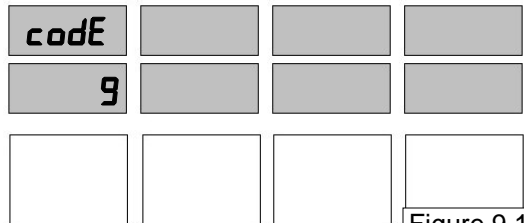

Figure 9.1
1. After the Manager's Mode has been accessed, press the 9 button and then the **MODE** button on the keypad. The main display on an un-programmed dispenser will appear as in Figure 9.1. This is the default. The price display shows the dispenser is in Menu Code 9.